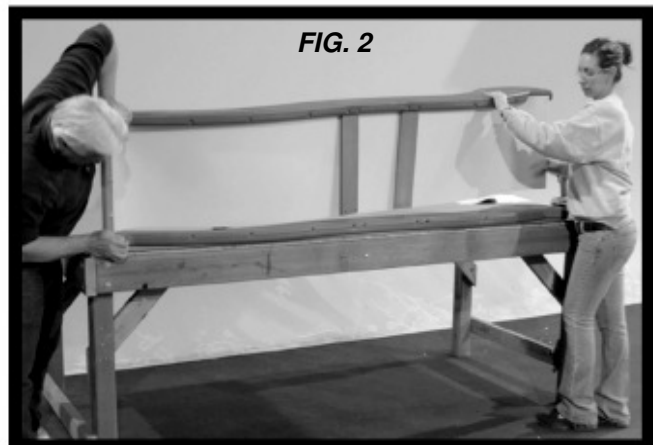

FIG. 2
- PLACE THE OTHER SLIDE RAIL ON A FLAT SURFACE WITH THE SLIDE CAVITY UP. HAVE A HELPER HOLD THE TOP END OF SLIDE BED AND BEGIN INSERTING THE SLIDE BED AND SLIDE BRACES INTO THE CAVITY AND SUPPORT POCKETS STARTING AT THE BOTTOM OF SLIDE AND WORKING UP TO THE TOP (FIG. 2). SECURE USING (12) 3" WOOD SCREWS AT EACH OF THE PILOT HOLE LOCATIONS AS SHOWN BELOW.